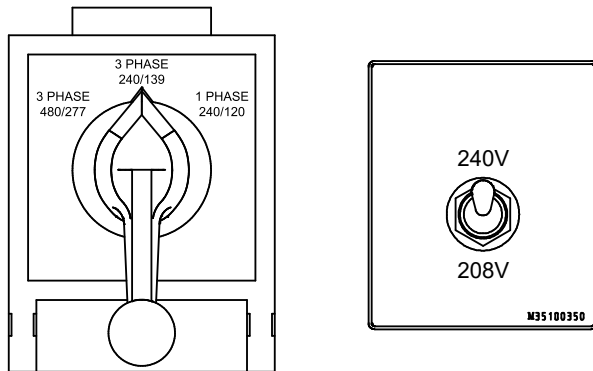

Figure 14. 3-Phase 240/139-Volt Selection
1. Place the **Voltage Selector switch** in the **3-phase, 240/139-volt** position as shown in Figure 14.
2. Place the **Voltage Select switch** in the **240-volt** position as shown in Figure 14.